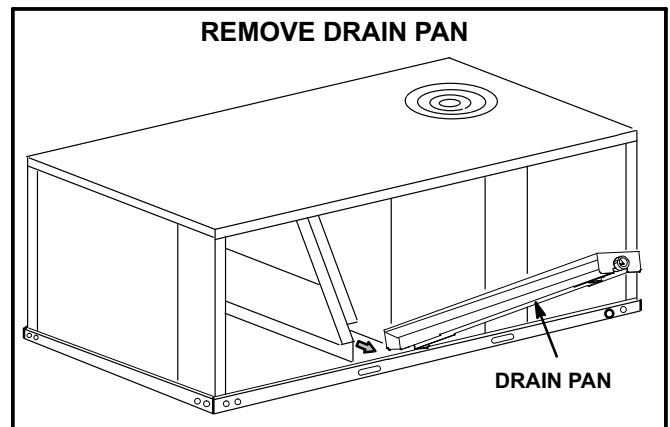

FIGURE 9
- 2- Lift the front edge of the drain pan and slide pan out of unit. See figure 9.